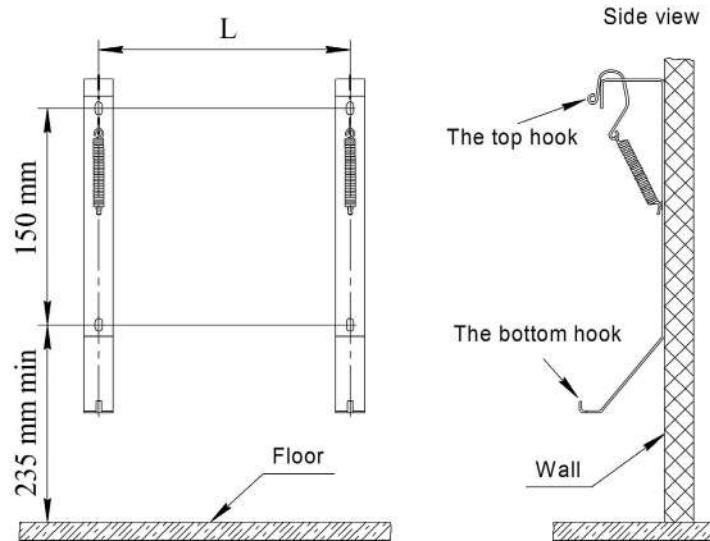

Figure 1
- execute on a wall a marking for fixing (see fig. 1, table 2);